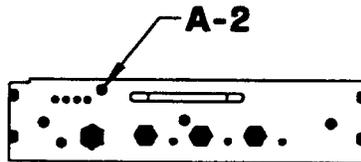

Figure 16-8B. HP E1740A Cover Removal
- 2 [A-2] Remove the front panel screw (H2) as shown in Figure 16-8B.